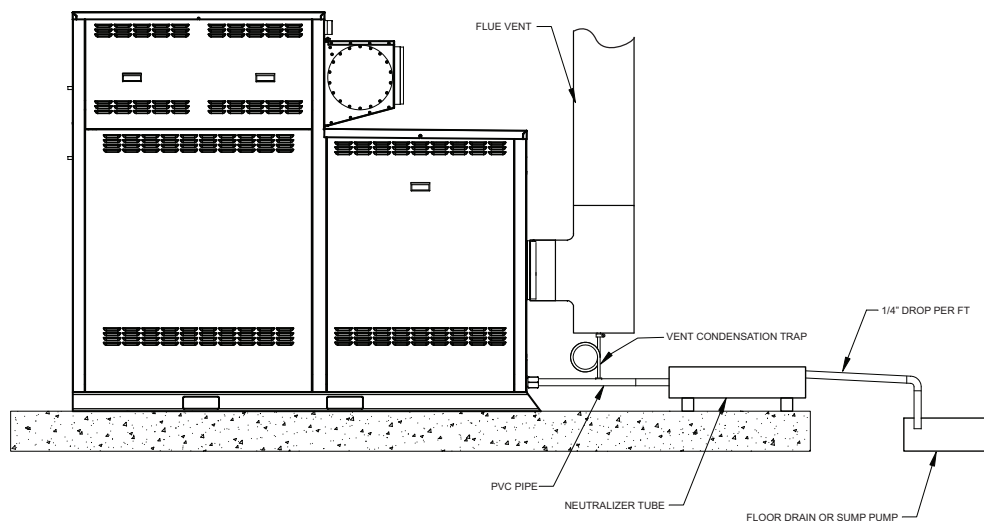

Fig. 34: Visual Guide for Condensate Piping
**CAUTION:** In general, the condensate piping from the appliance must have a downward slope of 1/4" per horizontal foot. Condensate drain traps must be primed with water to prevent gas flue leaks. Neutralizers should be checked at least once per year, and the chips should be replenished as necessary. When replacing the chips, they should be no smaller than 3/4" to avoid blockage in the condensate piping. *Fig. 34 is a visual guide only.* Follow the manufacturer's instructions for the installation of the neutralization kit and condensate drains.